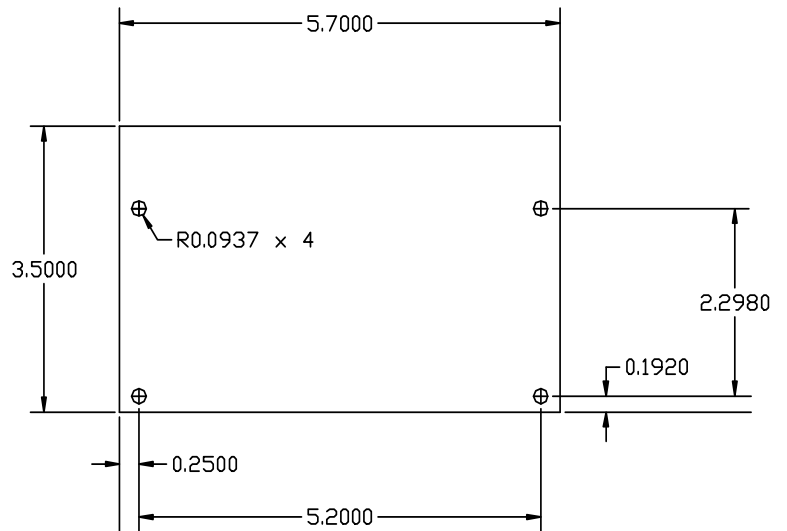

FIG. 3-19 INSTALLATION DETAILS
Step 1. Use the measurements shown in HI 2151/30WC Installation-Details (See Fig. 3-19) to make four mounting holes.
Step 2. Drill 3/16-inch diameter holes where marked. (See Fig. 3-19)